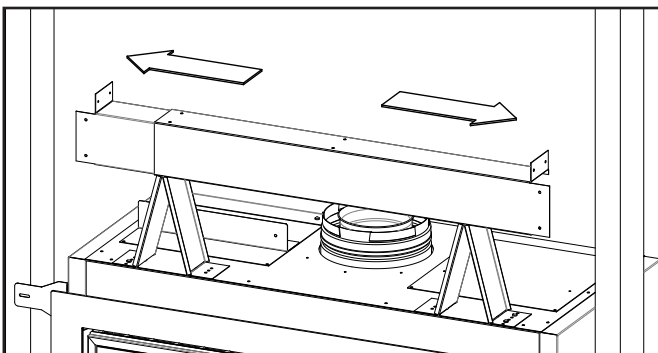

Figure 16: Steel Stud Placement
2. Place the steel stud onto the top standoffs and slide outwards until both ends make contact with the framing studs (see Figure 16).